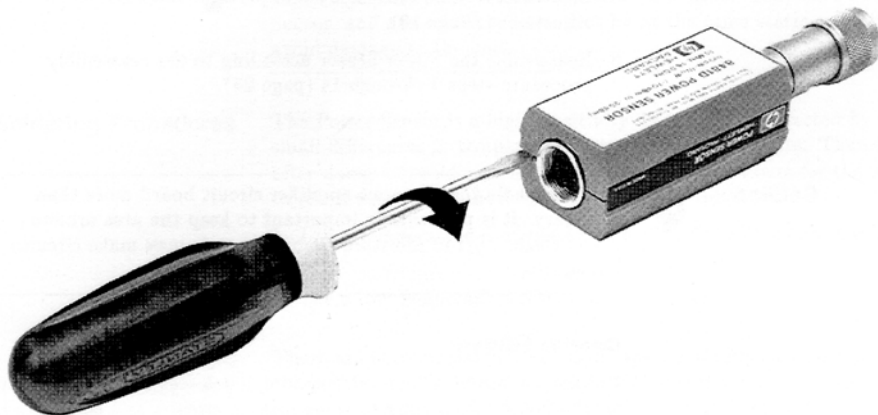

Figure 4-2 Removing Power Sensor Shell
- 1 At the rear of the power sensor, insert the blade of a screwdriver between the plastic shells (See Figure 4-2). To prevent damage to the plastic shells use a screwdriver blade as wide as the slot between the two shells.